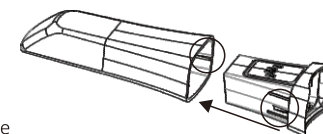

Figure 2
1. Before starting scanning, please kindly put on the scanner tip correctly. Please parallelly insert or remove the scanner tip based on Figure 2, without tilting;